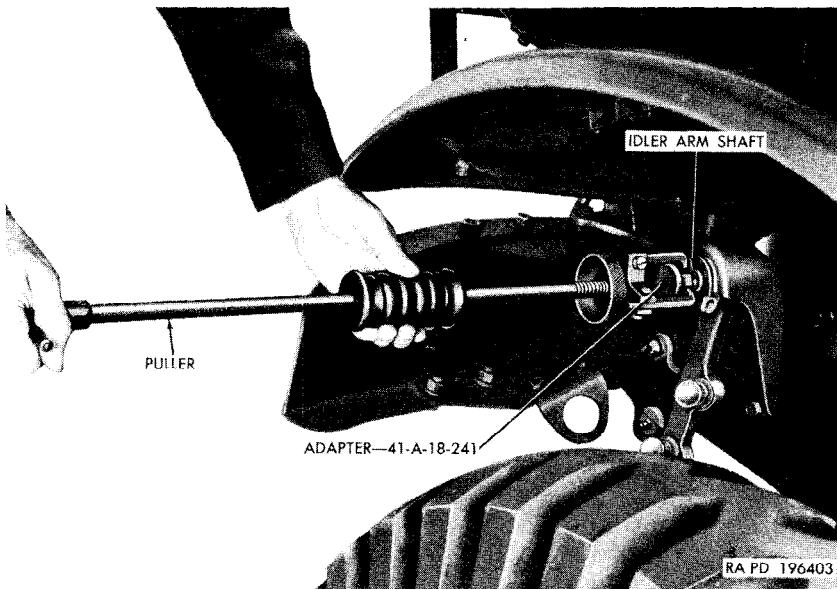

Figure 197. Removing idler arm shaft.
- (3) Remove the lubrication fitting from the idler arm shaft and install the adapter 41-A-18-241 in the fitting opening. Install the puller on the adapter and remove the idler arm shaft (fig. 197). Remove the idler arm (F, fig. 195). Remove the puller and the adapter.
- (4) Inspect the parts removed for wear or other visual damage. Replace parts as necessary.